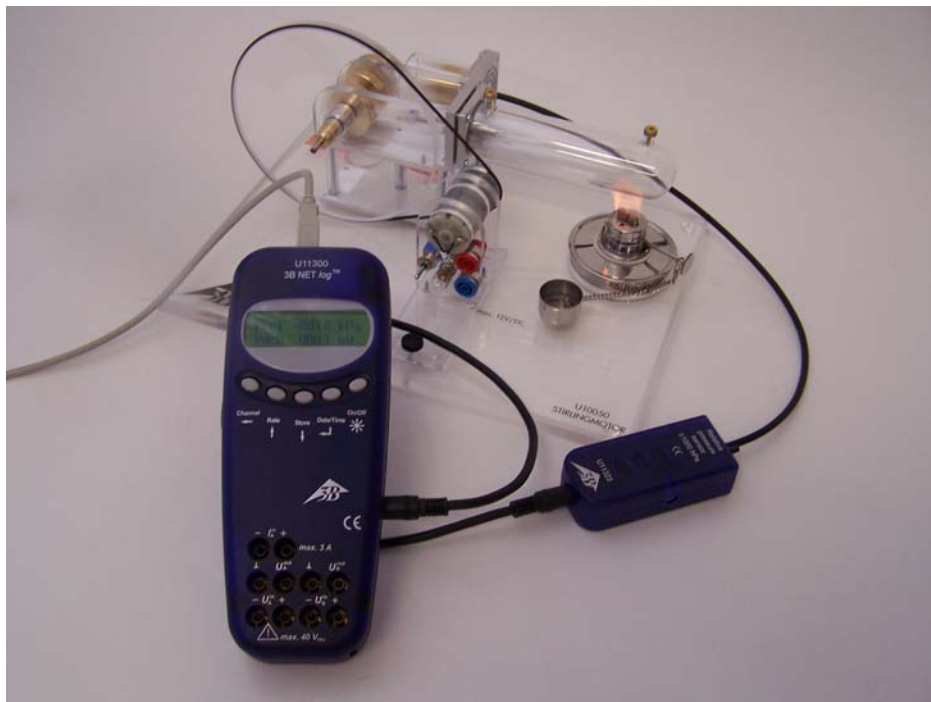

Fig. 1 Experiment set-up for recording operating pressures in Stirling engine U10050 while in motion
- Set up the experiment as shown in fig. 1.